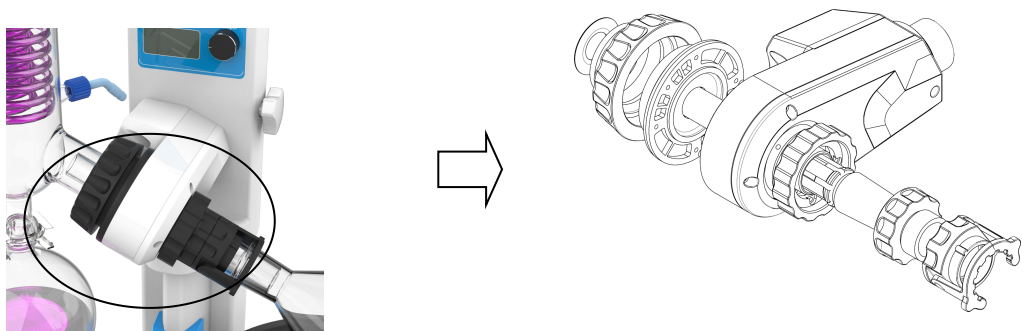

Figure 2
| (3) Fasten screw nut                    | (4) Head (Figure 2)               |